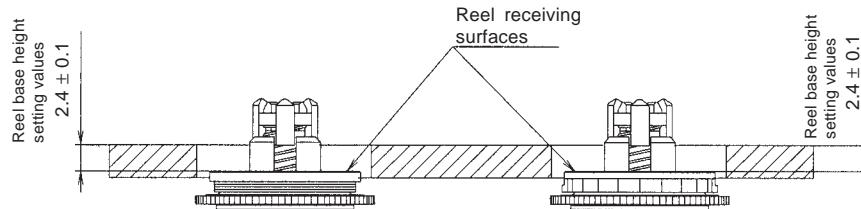

Fig. 3
- (4) Confirm that the heights of the S reel base reel receiving surface and the Tu reel base reel receiving surface below the master plane top surface are within the set values, using, for example, a slide calliper (Fig. 3).